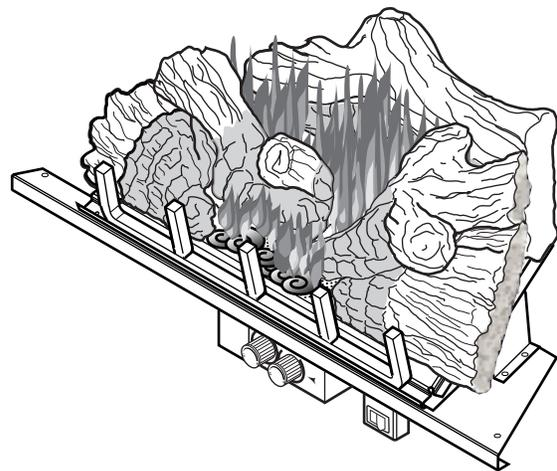

Figure 43 - Correct Appearance of Flames (32VFSC)
4. See *Figure 43, page 29* for the location of the piezo ignitor and control knob. Push in gas control knob slightly and turn control knob clockwise to the OFF position.